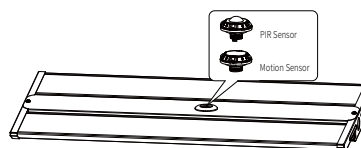

Figure 13
Step2.Twist-lock the DC sensor to the base to make it work properly, use a remote control to adjust the working mode as per demand.[Figure 13]